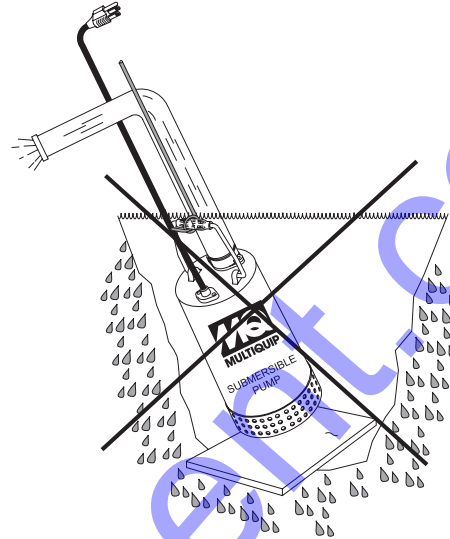

Figure 10. Submersible Pump Upright Position (Incorrect)
2. Make sure the pump is always placed in an upright position, not tilted (Figure 10). Never position the pump directly on a soft, loose bottom. Remember to attain maximum pumping capacity and prevent excessive wear, position the pump so it will not burrow itself into sand or clay.